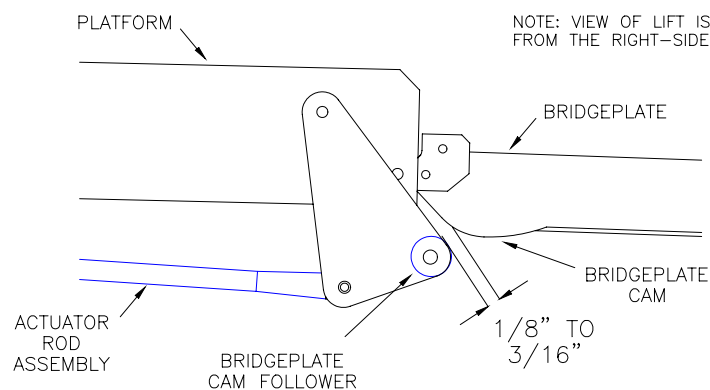

FIGURE 2-6: BRIDGEPLATE ADJUSTMENT DIAGRAM
- h. Refer to **Figure 2-6**. Turn the rod end to shorten or lengthen the actuator rod assembly so that the bridgeplate cam follower is between $1/8"$ - $3/16"$ from the cam of the bridgeplate when the shoulder bolt is reinstalled. Measure and note the distance between the rod end mounting hole and the actuator rod. Reinstall the standoff/ spacer, the shoulder bolt, and tighten the rod end hex-nut.